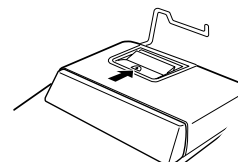

Fig. 1
- 2) Remove the printer cover. (Fig. 1)